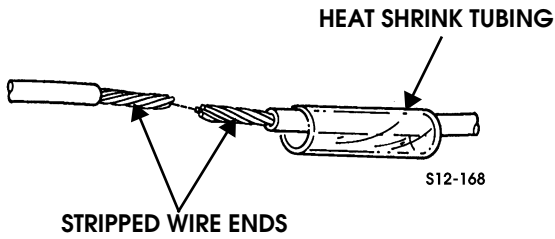

Figure 12-9: Heat Shrink Tubing
2. Strip wire ends to the appropriate length required by the splice clip (Figure 12-9).